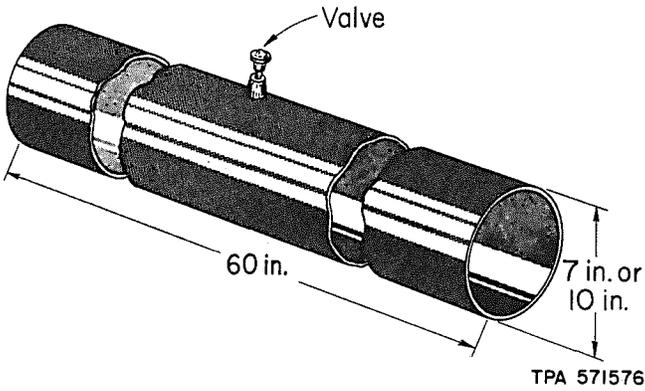

Fig. 1—C Splice Cover
**2.01** The C Splice Cover (Fig. 1) is a rubber cover 60 inches long and is available in both 7 and 10 inches in diameter. It is for use over a straight splice.